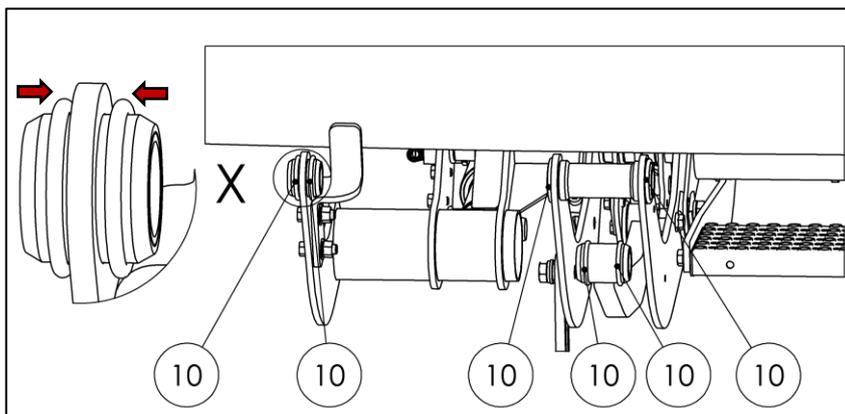

Fig. 56
- Thread 6 O-rings (accessories kit parts list – Item No. 10) onto the steel bushings (see Fig. 56).